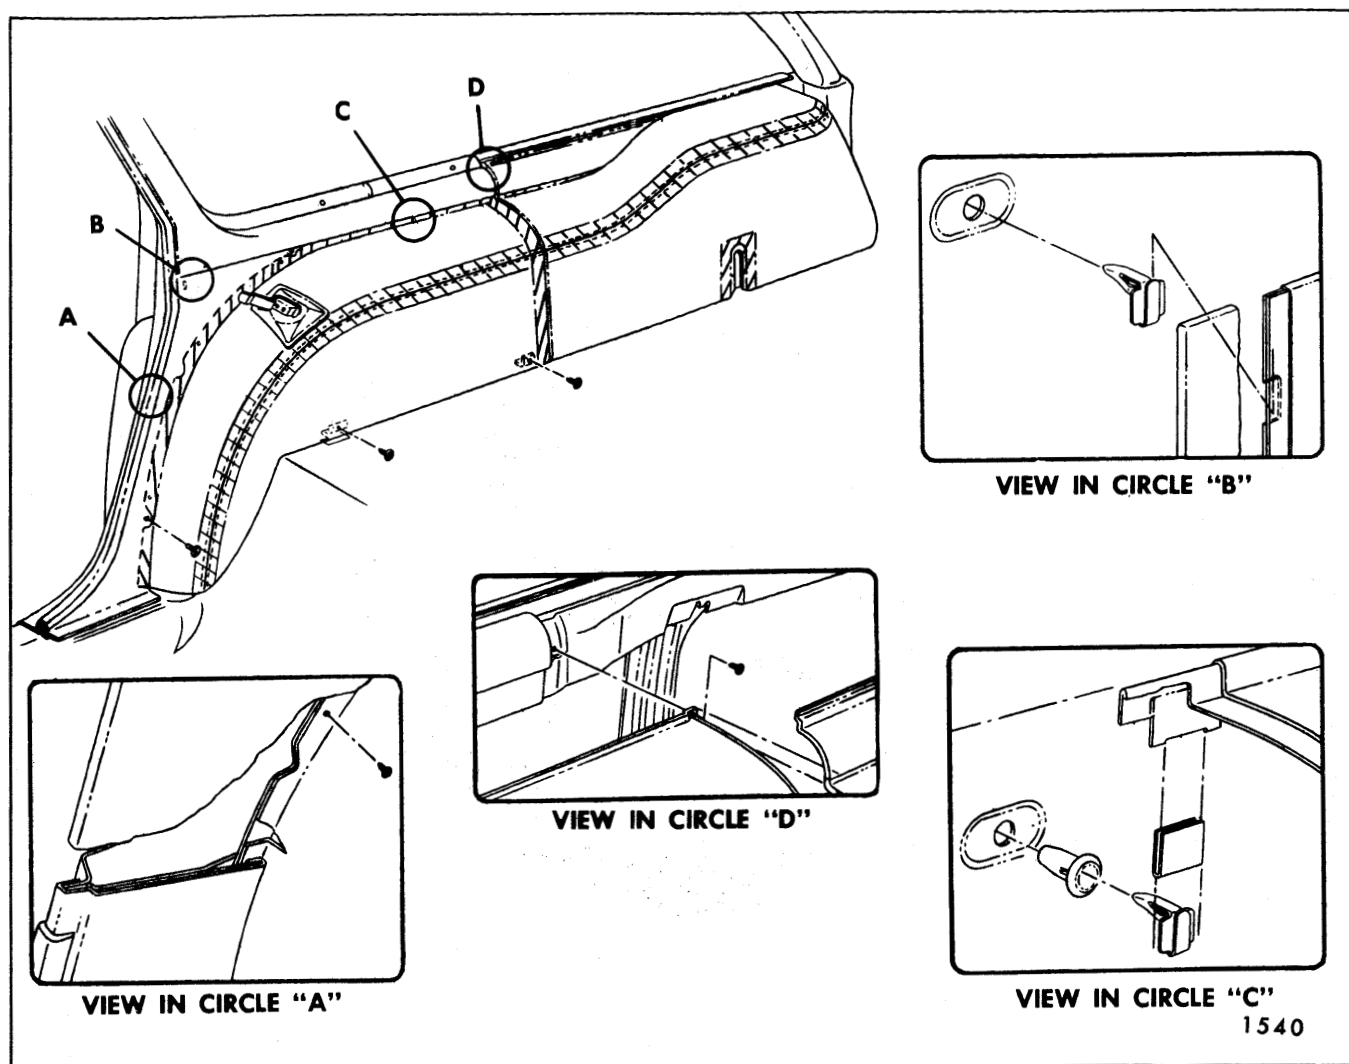

Fig. 8-18—Rear Quarter Trim Panel, Right Side - "A" Station Wagons
2. Remove exposed screw at lower end of trim panel (see Fig. 8-18 and 8-19).
3. With a flat bladed tool, disengage trim retaining clips from quarter inner panel (see View "B" in Fig. 8-18).
by a screwed-on garnish molding and at the load floor level by a folding (catch-type) handle. To remove cover, open catch handle and swing bottom edge of assembly upward to disengage upper edge from beneath garnish molding (see Fig. 8-18). To install, reverse removal procedure.
rear and bottom of wheelhouse trim cover (See Fig. 8-18).
4. With a putty knife, or other suitable flat bladed tool, disengage trim retaining clips from sealing plugs along top of wheelhouse cover panel and remove panel from body (see View "C", in Fig. 8-18).